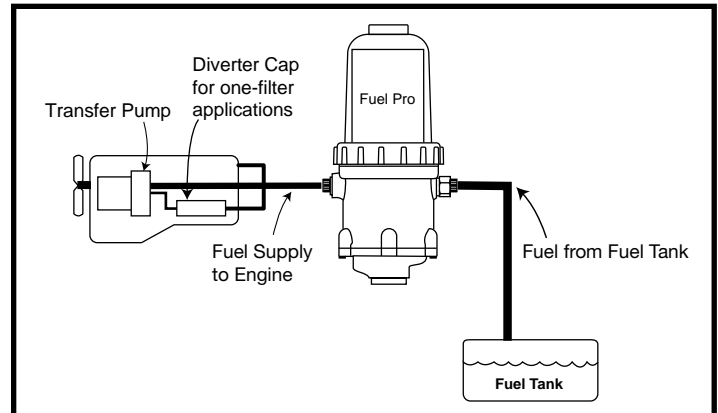

Figure 2
**Step 5:** Route Fuel Lines: (see Figure 2)